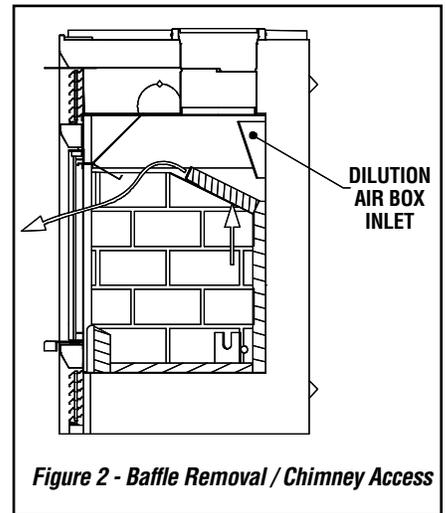

Figure 2 - Baffle Removal / Chimney Access
1. Remove the baffle refractory and its iron angle support (figure 2);